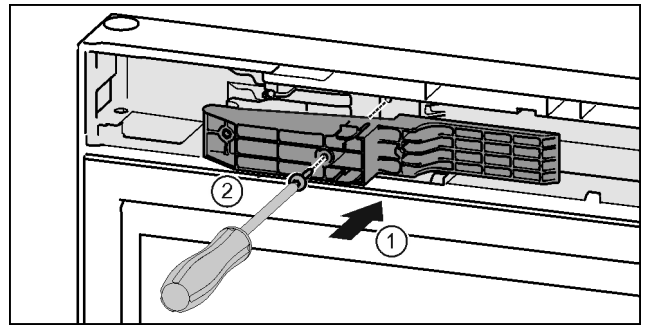

Fig. 46*
- ▶ Install the adapter on the handle side of the slot.* Fig. 46 (1)
- ▶ Tighten the screws with the T15 screwdriver.* Fig. 46 (2)